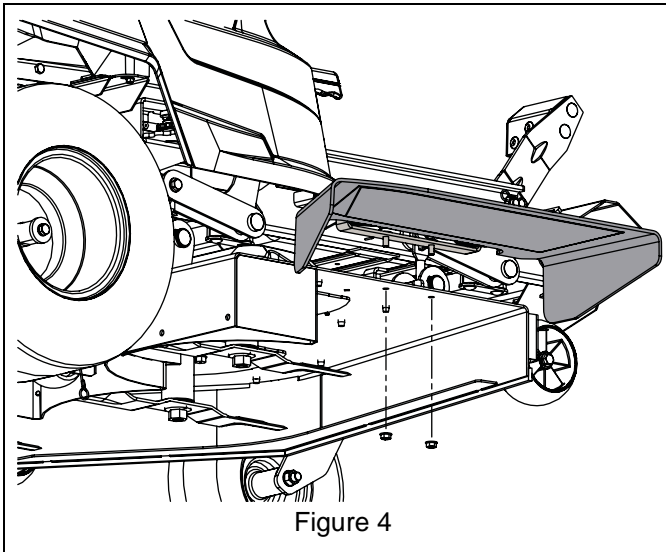

Figure 4
1. Remove two 5/16" hex nuts retaining discharge chute and remove assembly. Retain for operation without bagger attached. See Figure 4.